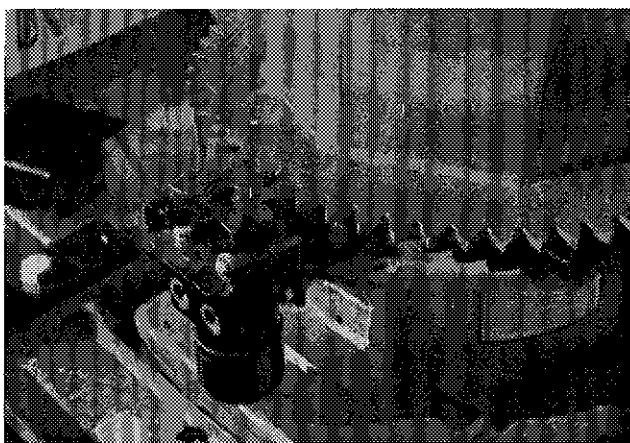

Figure 23
- 2) Install motor mounting plate, motor and 9 tooth gear. See page 34 for bolt dimensions (Fig. 23).